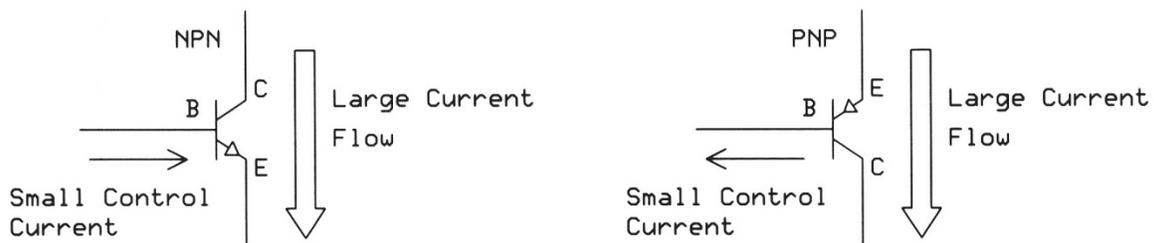

Figure 21.3.
Instead of drawing images of transistor packages and connections, electronic engineers use standard symbols that show the electrical connections and identify the transistor type: PNP or NPN. The diagram in **Figure 21.3** shows these symbols for both transistor types and the direction of current flow through them. Whether you have an NPN or a PNP transistor, they have the same three connections, labeled *collector*, *base*, and *emitter*. An arrow at an angle represents the emitter (E), a straight line at an angle represents the collector (C), and a horizontal line that forms a sideways "T" represents the base connection (B). The word "base" refers to an electrical connection and not to the bottom or other part of a transistor package.